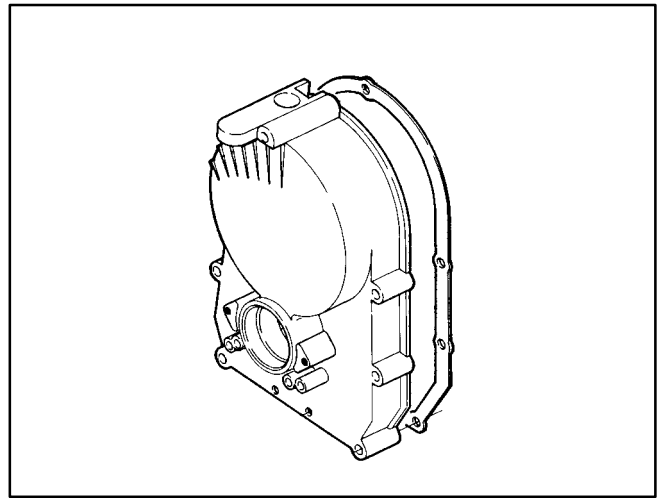

FIGURE 53. GEAR COVER AND GASKET
1. Remove the cooling blower and gear cover (Figure 53).